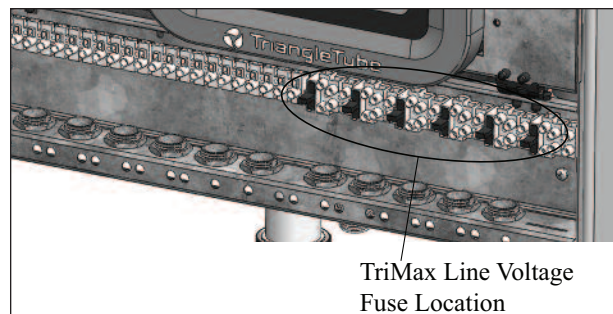
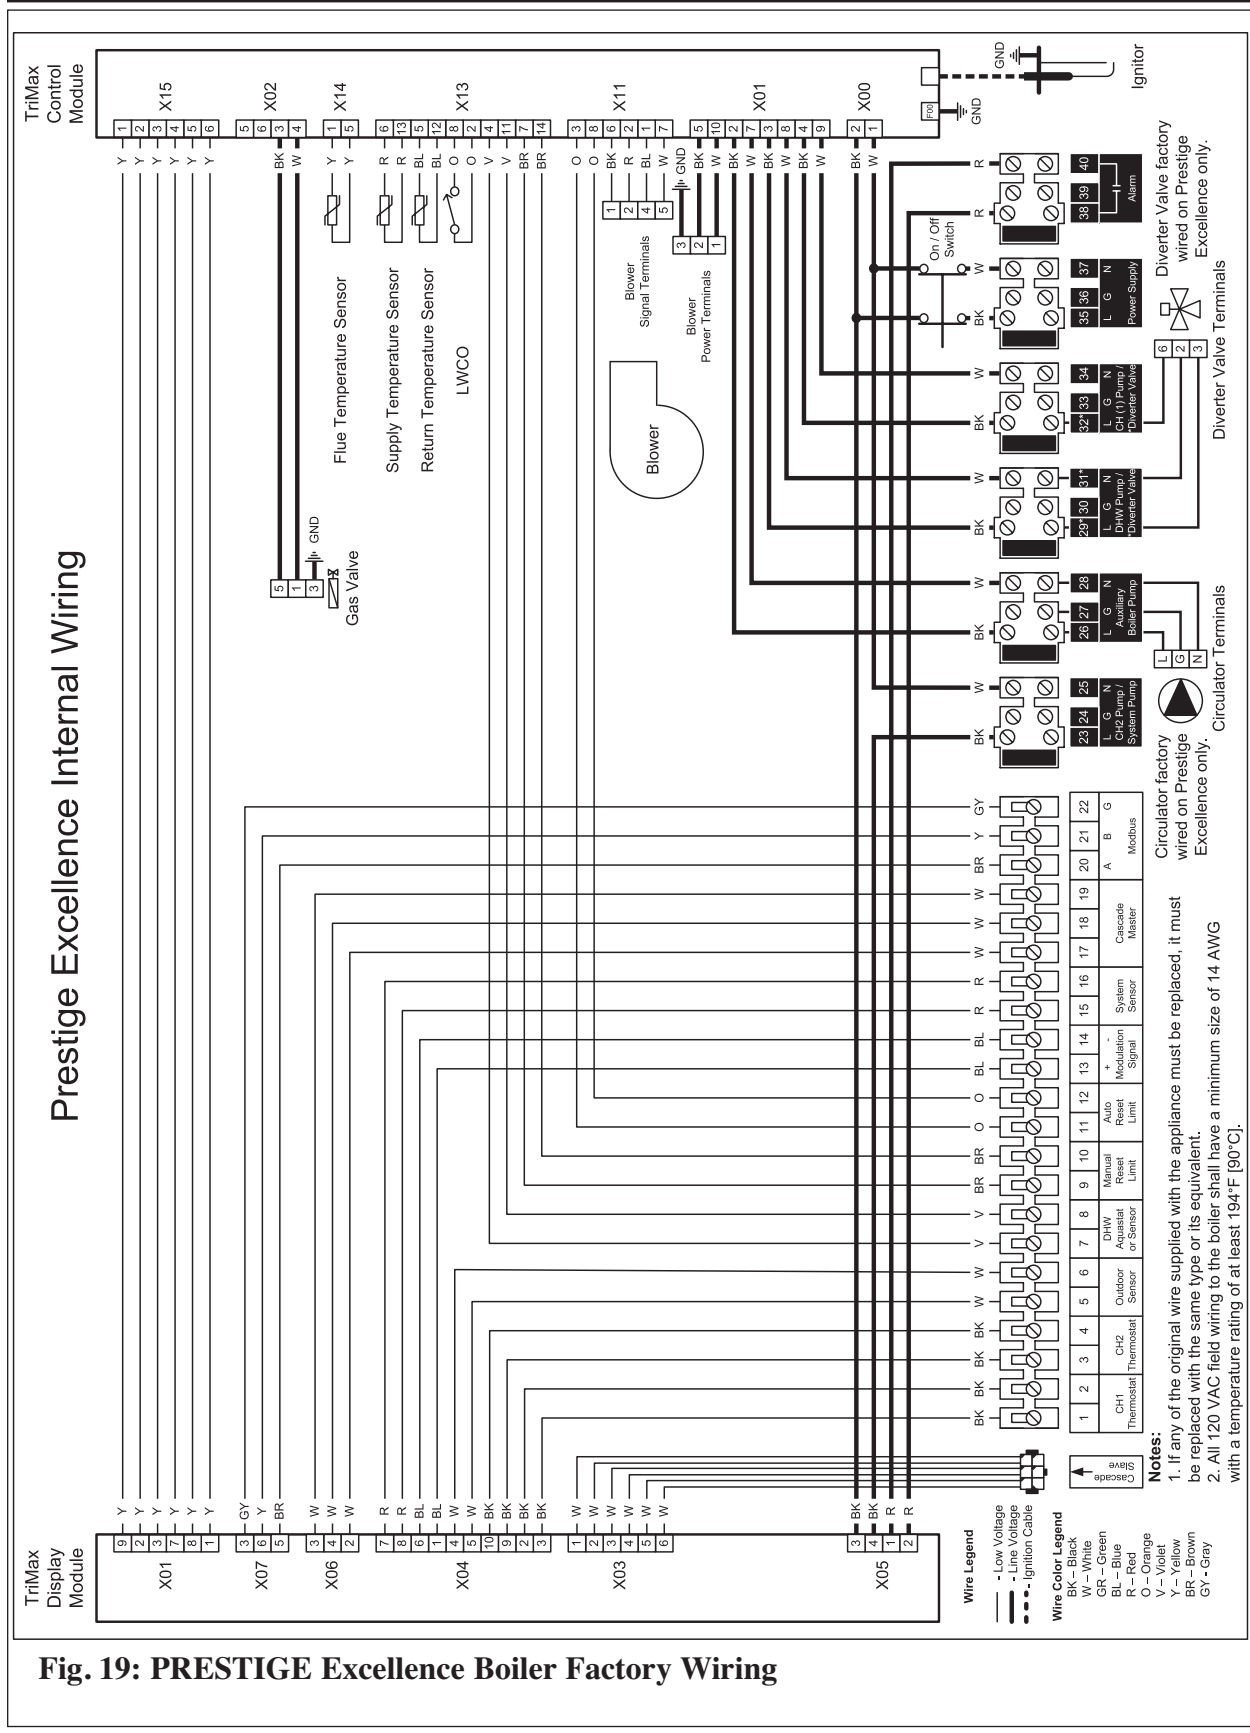

Fig. 18A: Fuse Location on the line voltage Terminals
Fig. 19: PRESTIGE Excellence Boiler Factory Wiring
Additional fuses are also located on the line voltage terminals as shown in Fig. 18A and Fig. 19.
1. Connect a dedicated 120 VAC/15A service to the line voltage terminal strip on the wiring panel below the PRESTIGE control module, as shown in Fig. 19, page 29.
1. The Boiler circulator is prewired to the line voltage terminal strip on the wiring panel below the PRESTIGE control module, as shown in Fig. 19 on page 29. The Boiler circulator is enabled for any CH1, CH2, or DHW call. This circulators is used to supply heat to the central/space heating loop as well as the internal Indirect Water Heater.
2. The Diverter Valve is prewired to the line voltage terminal strip on the wiring panel below the PRESTIGE control module, as shown in Fig. 19 on page 29. The Diverter Valve will direct water flow to the CH Supply Connection at the bottom of the boiler during a CH1 or CH2 call or to the internal Indirect Water Heater during a DHW call.
3. Connect the System circulator to the line voltage terminal strip on the wiring panel below the PRESTIGE control module, as shown in Fig. 19 on page 29. The System circulator is enabled during a CH1 or CH2 call with the factory default Trimax Settings. This circulator is typically used to circulate water in the secondary CH loop when zoning with zone valves.
1. Connect the external monitoring device to the line voltage terminal strip on the wiring panel below the PRESTIGE control module, as shown in Fig. 19 on page 29.
1. Connect the room thermostat or dry contact end switch to the low voltage terminal strip on the wiring panel below the PRESTIGE control module, as shown in Fig. 19 on page 29.
2. Connect the additional boiler limit to the low voltage terminal strip on the wiring panel below the PRESTIGE control module, as shown in Fig. 19 on page 29.
1. Connect the system temperature sensor to the low voltage terminal strip on the wiring panel below the PRESTIGE control module, as shown in Fig. 19 on page 29.